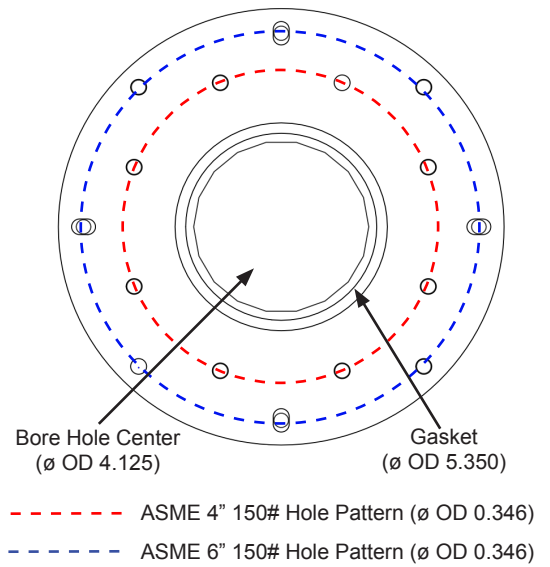

Figure 3: Flange Bolt Pattern Outside Tank
STEP 2: Attach the Float Arm Assembly to the Dish Assembly with provided bolts and nylock nuts. (See *Figure 3 & 4*)